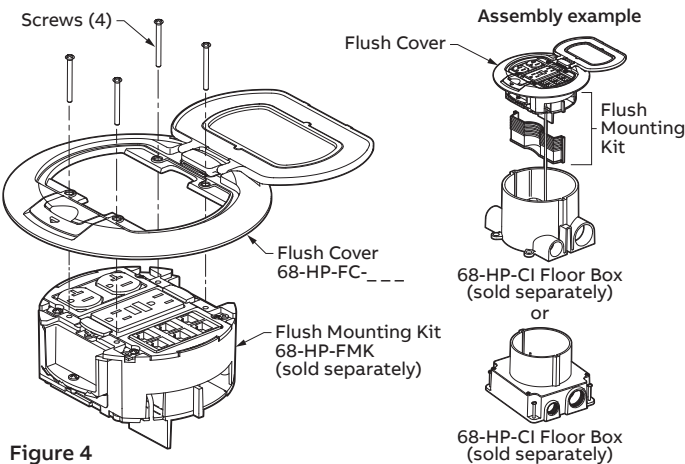

Figure 4
2. Attach Flush Cover to Flush Mounting Kit (Figure 4) using #6 32 x 1 1/4" long screws (supplied).